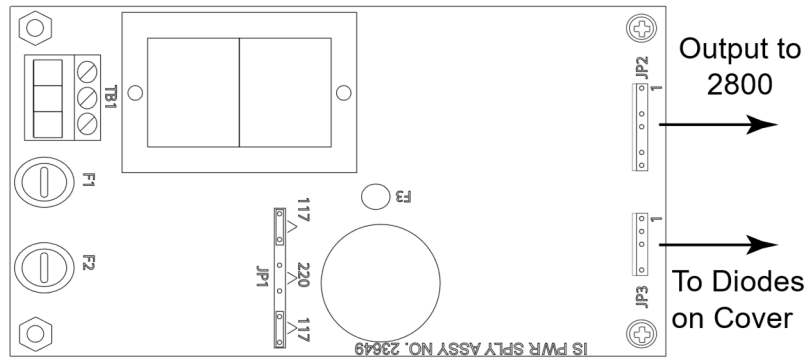

Figure 4
1) Install cover plate, being certain to reconnect the keyed diode cable assembly to the power circuit board at the JP3 location (see figure 4).